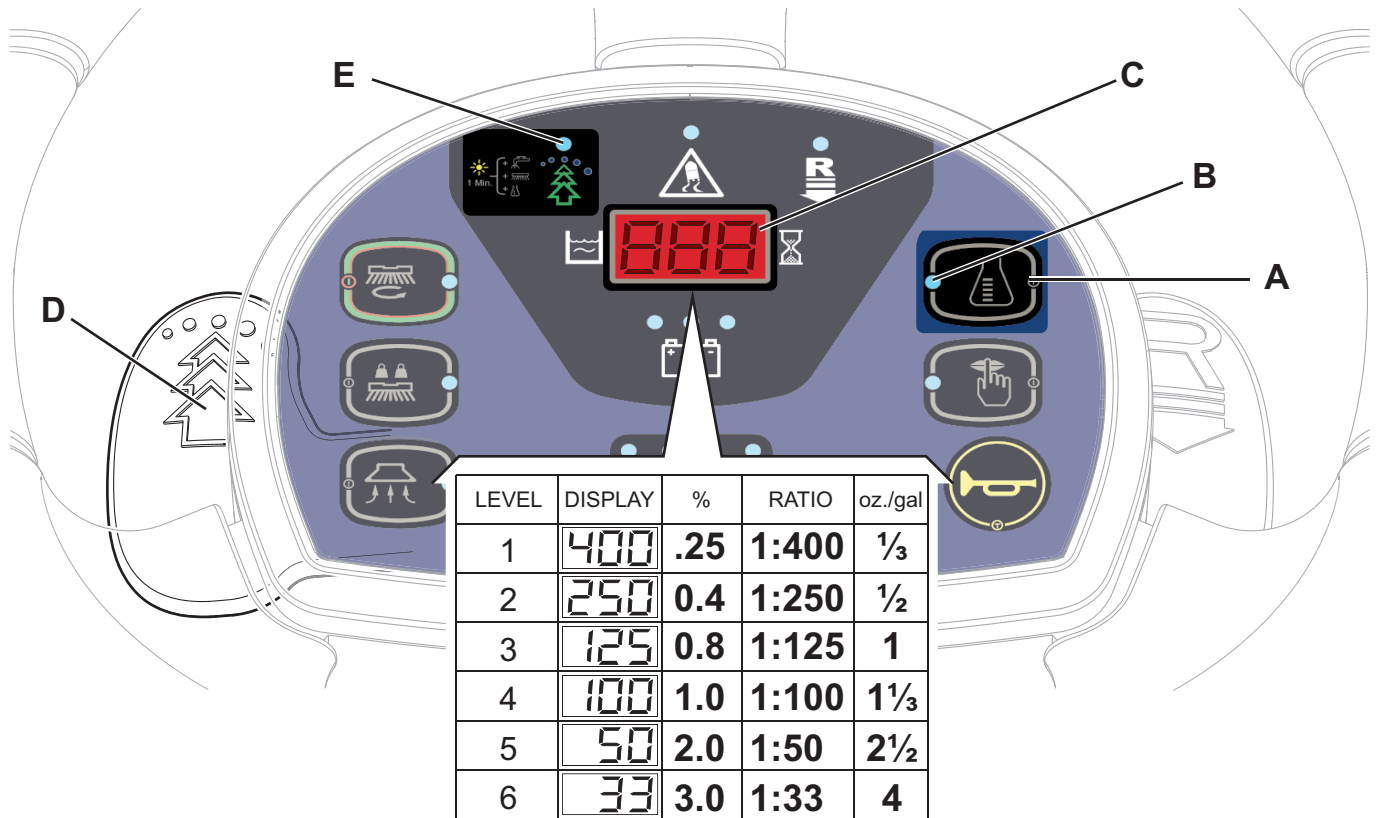

Figure 4
The system used to mix the detergent with the washing water can be activated by pressing the detergent flow control push-button (A, Fig. 4): when the LED (B) is on, the detergent is added to the washing water.
1. Turn off the detergent flow control push-button (A) (the LED (B) must be OFF).
2. Press and hold the detergent flow control push-button (A) until the LED (B) flashes.
3. Release the push-button (A). Press it again shortly to go to the next level shown by the display (C) as shown in the table in Figure 4; repeat the procedure until the desired setting is reached.
4. Wait until the LED (B) stops flashing: the new level is now set.
Lift the EcoFlex lever (D, Fig. 4) whenever a stronger washing power is required.